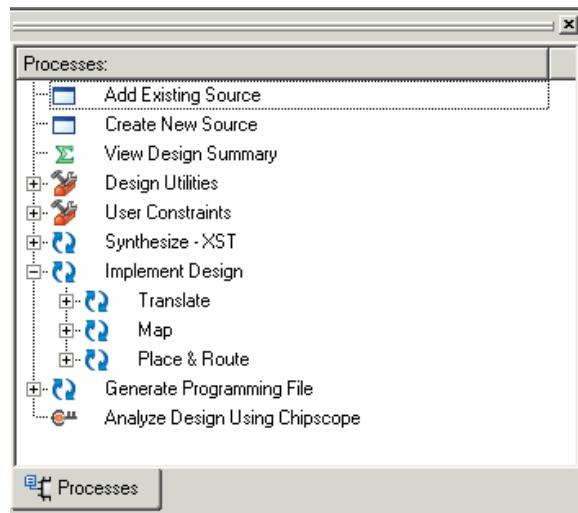

Figure 1f-9. Processes for Source Window
- ① In the Sources for: drop-down box, select **Synthesis/Implementation**
- ② Select the top-level design file **ch_fifo.v**
- ③ In the Processes window, expand **Implement Design** to view the underlying processes. Double-click **Implement Design** (Figure 1f-9)
- ④ Read some of the messages in the message window located across the bottom of the Project Navigator window
- 5 When implementation is complete, double-click **View Design Summary** in the Processes window (**Figure 1f-10**)